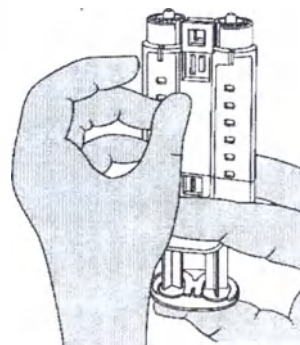

Figure 10
2. Hold the syringe holder with the Luers pointed upward. To remove air bubbles from syringes, strike gently the side of the syringe holder one or two times while keeping the syringe holder in an upright position and lightly depress the plunger to eject air (Fig. 10).